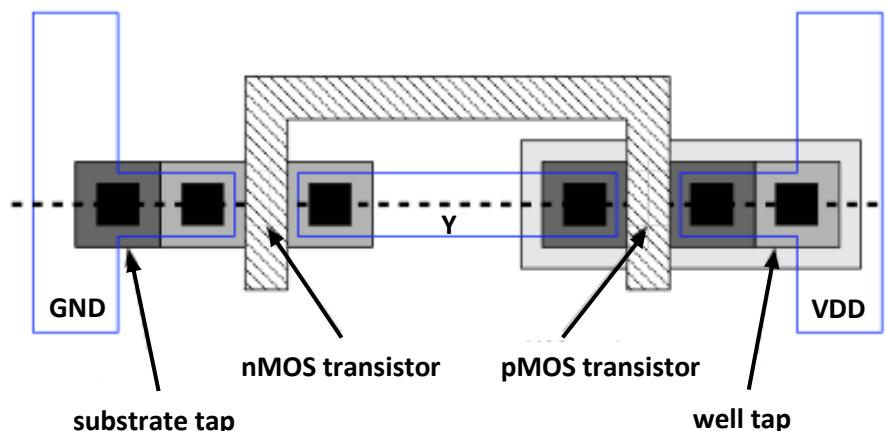

Figure 3
- (c) Figure 3 below illustrates the Top View of an inverter.